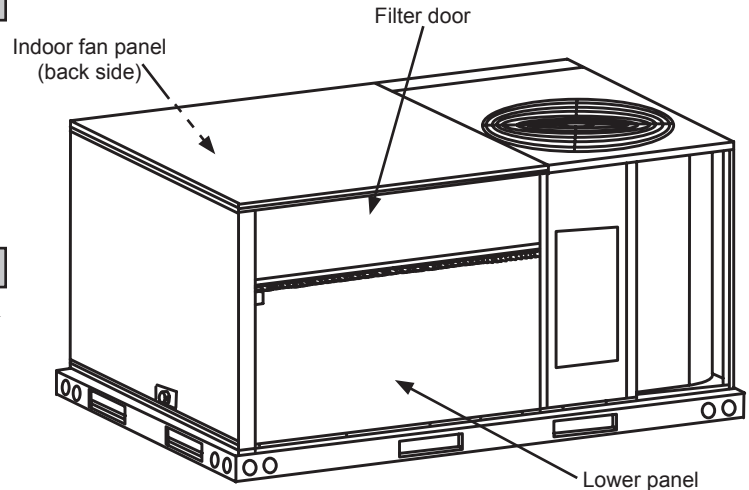

Figure 1
4. Remove filter door, side economizer panel, and indoor fan panel from unit. Retain screws and set aside for later use. (See Fig. 1.)